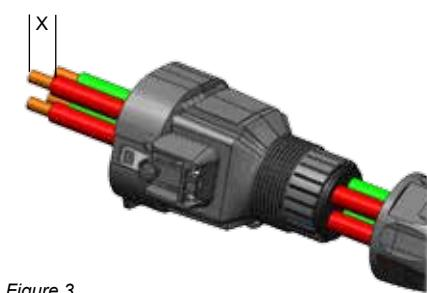

Figure 3
Table 1 (See figure 3)
- Keep all contacts parallel to each other while crimping. (See figure 3)